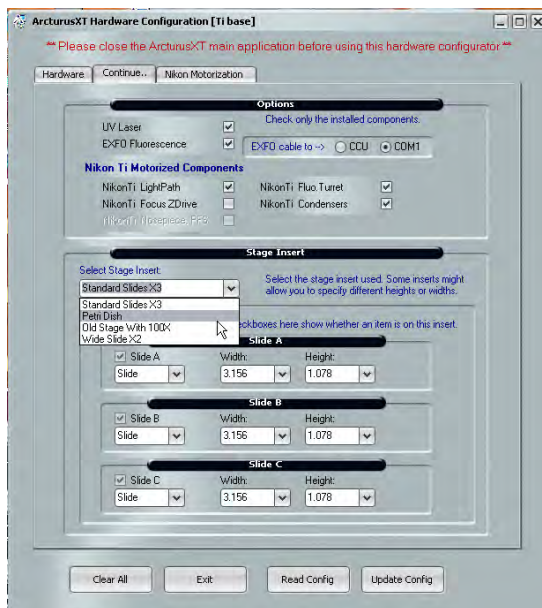
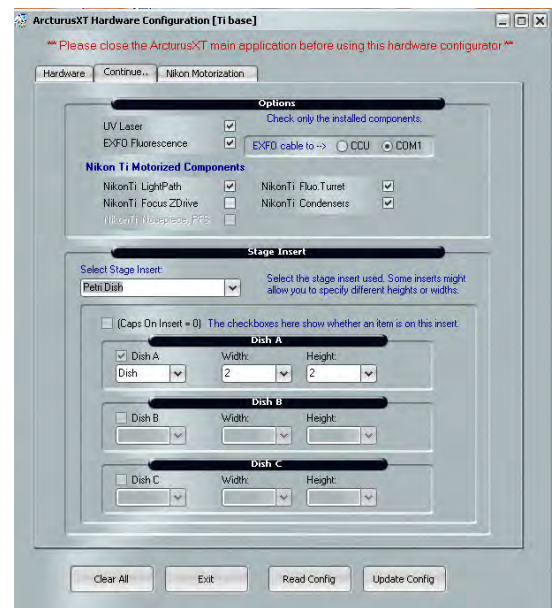

Figure 5A. Hardware Configurator.
Figure 5B. Petri Dish stage configuration.
- In the Select Stage Insert field, select “Petri” (Figure 5A). Slide B and C positions will be grayed out and only position A will remain available (Figure 5B).